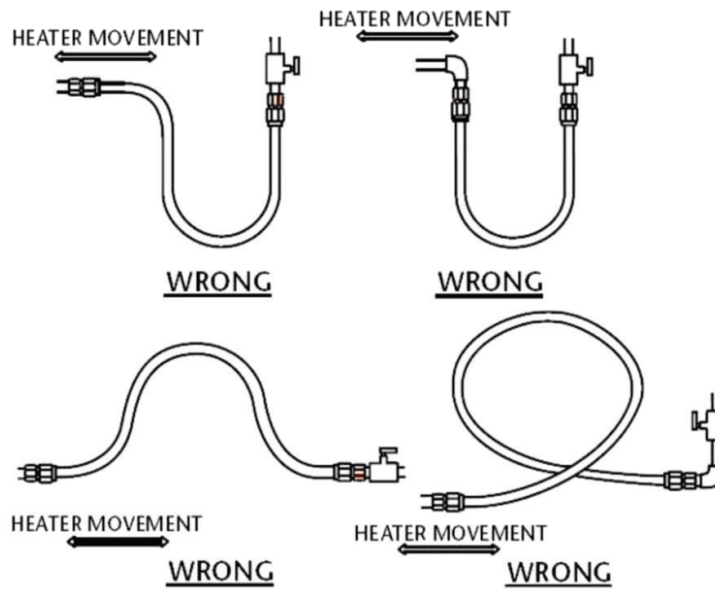

Figure 23. Flexible Gas Connection
- It is essential to provide some flexibility in the final gas line connection by use of an approved flexible connector installed in a U-configuration as shown in Figure 23. Use a length of 24 inches (610 mm) and a minimum internal diameter of 1/2 inch for heaters $\leq 150,000$ BTU/h and a length of 36 inches (914) and a minimum internal diameter of 3/4 inch for heaters $> 150,000$ BTU/h. Care must be taken to observe the pipe bend diameter of 12 inches (30 cm) and pipe displacement distance of 3 inches (7.62 cm) as shown in Figure 23. In Canada, the *Natural Gas and Propane Installation Code* (CAN/CSA B149.1) requires a Type I hose connector certified to CAN/CGA-8.1 with a length of 36 ± 6 inches (90 ± 15 cm). Type I hose is field-supplied when required. In the US, use only a stainless steel connector that complies with the *Standard for Connectors for Gas Appliances* (ANSI Z21.24/CSA 6.10).